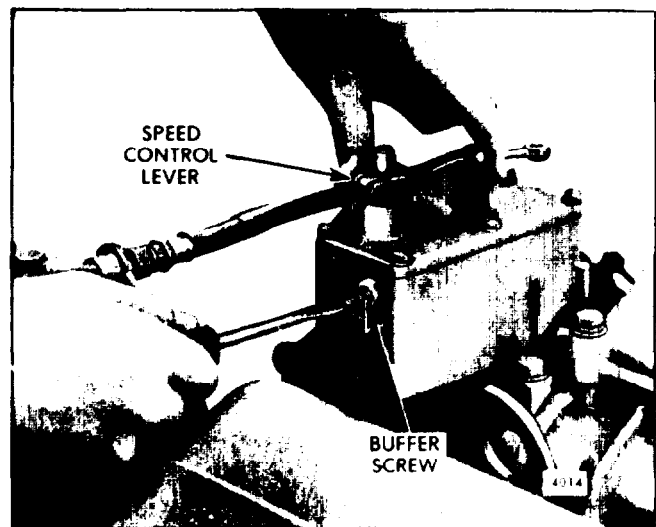

Fig. 9 - Adjusting Buffer Screw
2. Back out the buffer screw (Fig. 9) until it extends approximately 5/8" from the lock nut.
- 1. With the engine running at normal operating temperature, turn the buffer screw in (Fig. 9) so it contacts the differential lever as lightly as possible and still eliminates engine roll.